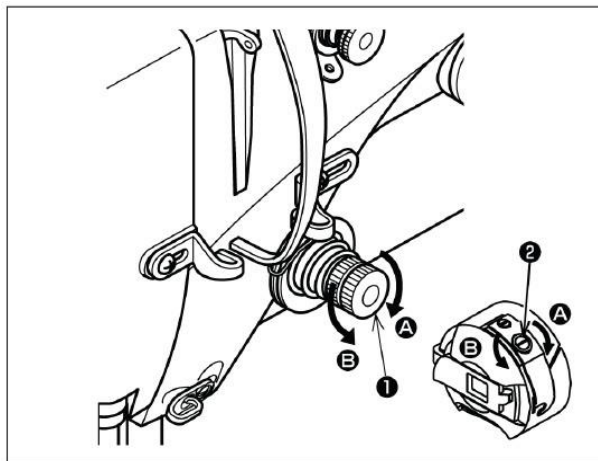

Fig.14
Turn the tension screw (2) towards (A) to increase the bobbin thread tension, or towards (B) to decrease it. See fig.14.